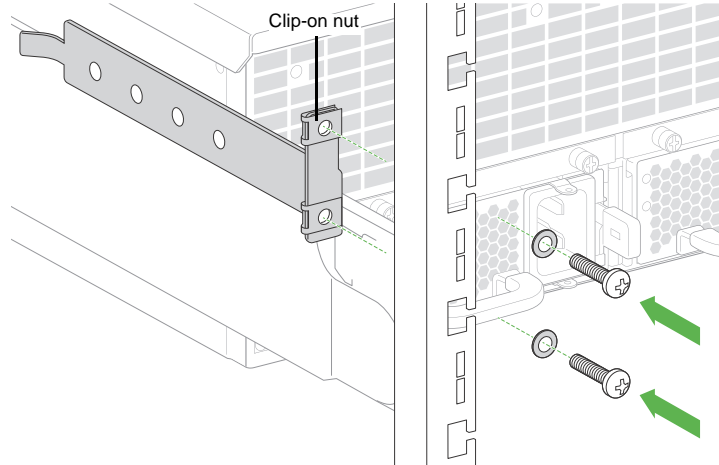

Figure 1.4 Attaching the Left Rack-Attachment Bracket to Inside of Equipment Rack
- If you are using the *long rack-attachment bracket*, attach the clip-on nuts over the two holes on the upright section of the bracket. The bracket attaches to the *inside* of the equipment rack, as shown in Figure 1.4.
**Note:** Only use the long bracket, shown in Figure 1.4, for equipment rack depths from 31" to 36".